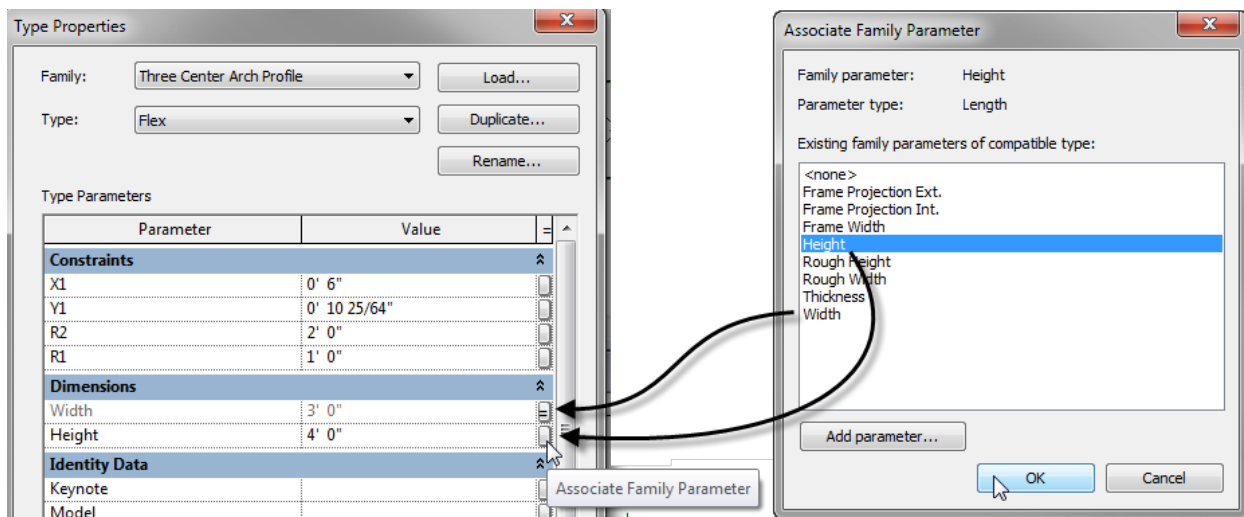

Figure 51—Associate Family Parameters to make the Profile match the door size
- c. Repeat for Height and then click OK again (See Figure 51).